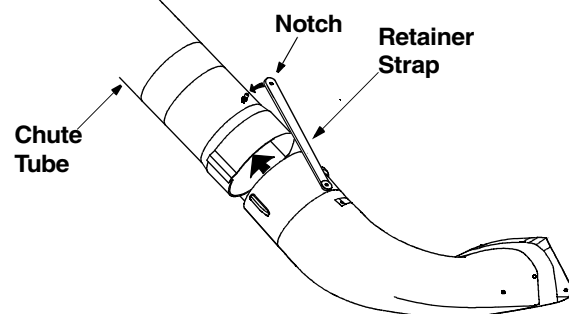

Figure 9
- Place the lower end of the chute tube over the discharge chute so that the two notches on the chute tube fit into the two corresponding notches on the discharge chute. See Figure 9.
- Secure by clipping the two retainer straps of the discharge chute to the pins on the chute tube. See Figure 9.